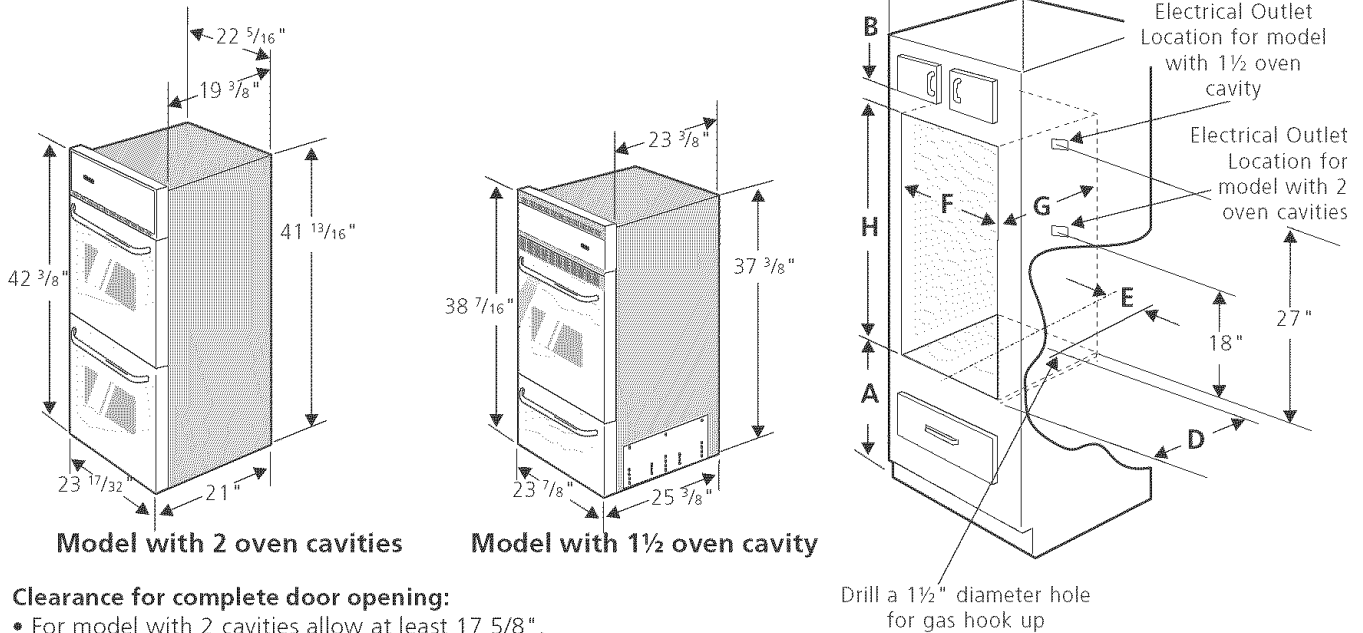

Figure 1
- Refer to figure 1 for the dimensions applicable to your appliance, and the space necessary to receive the oven. Corners must be square.
- Bricked opening (for model with 2 cavities only): If oven is to be installed in brick or stone, first construct a rectangular wooden frame with ½" sides and ¼" top and bottom. The inside dimensions of this frame must be the same as the opening dimensions in the figure 1. Place frame flush in brick opening which shall be snug fit with the outside of frame. Secure frame to brick. Overhang of oven trim will cover brick and wood and will not be exposed. Proceed as in "Cabinet Installation" section farther.